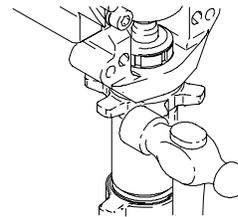

Fig. 14 7673B
6. Fig. 14. Loosen jam nut by hitting firmly with a 20 oz (maximum) hammer. Unscrew pump.